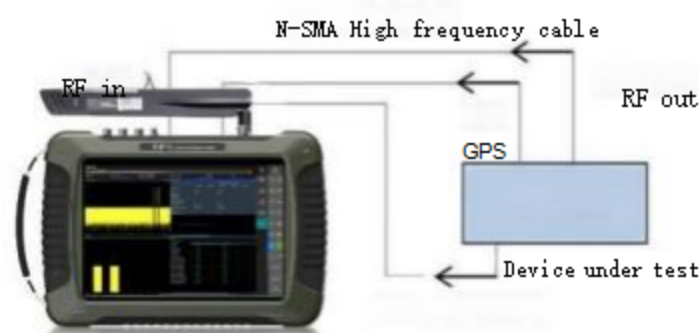

Figure 5.22 Schematic diagram of the tested equipment and RMT series spectrometer
Step 1. Connect the signal output port of the device under test to the RF input port of RMT series spectrometer as shown in Figure 5.22. Section 3.2.2.